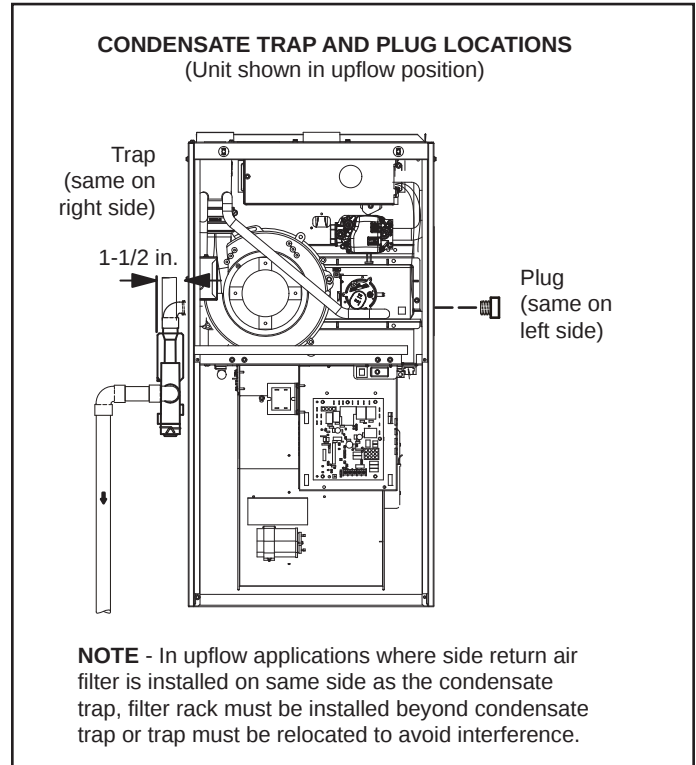
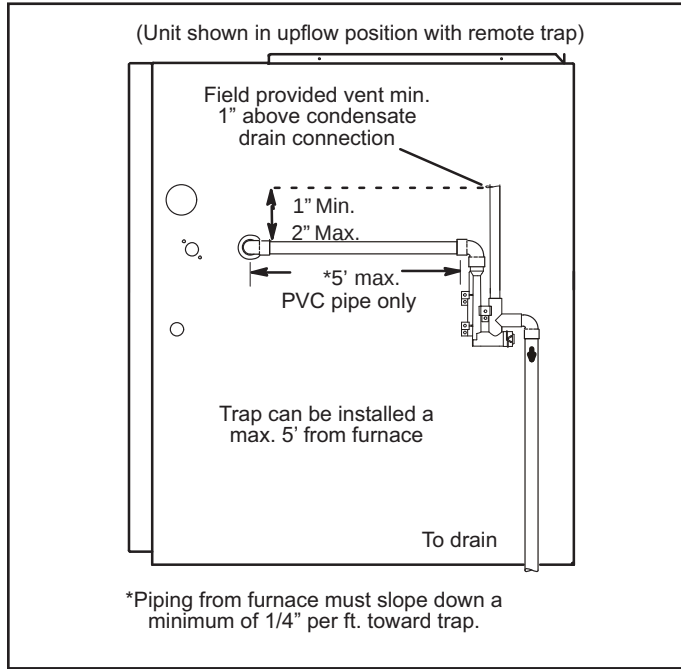
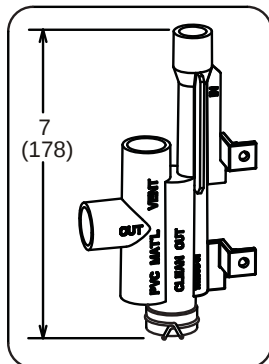

Figure 45.
Figure 47. Condensate Trap Locations
Figure 54. TRAP / DRAIN ASSEMBLY USING 1/2" PVC OR 3/4" PVC COLD END HEADER BOX WITH 1/2" DRAIN CONNECTION
This unit is designed for either right- or left-side exit of condensate piping in upflow applications. In horizontal applications, the condensate trap must extend below the unit. An 8" service clearance is required for the condensate trap. Refer to Figure 45 and Figure 47 for condensate trap locations. Figure 53 (3/4" drain connection) and Figure 54 (1/2" drain connection) show trap assembly using 1/2" PVC or 3/4" PVC.
2. For furnaces with a 1/2" drain connection use a 3/8 allen wrench and remove plug (Figure 45) from the cold end header box at the appropriate location on the side of the unit. Install field-provided 1/2 NPT male fitting into cold end header box. For furnaces with a 3/4" drain connection use a large flat head screw driver or a 1/2" drive socket extension and remove plug. Install provided 3/4 NPT street elbow fitting into cold end header box. Use Teflon tape or appropriate pipe dope.
3. Install the cap over the clean out opening at the base of the trap. Secure with clamp. See Figure 53 or Figure 54.
4. Install drain trap using appropriate PVC fittings, glue all joints. Glue the provided drain trap as shown in Figure 53 or Figure 54. Route the condensate line to an open drain. Condensate line must maintain a 1/4" downward slope from the furnace to the drain.